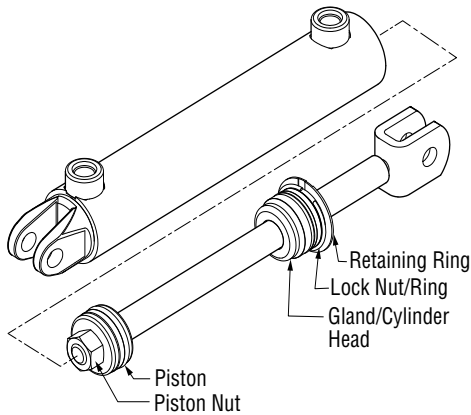

Figure 4-4, Rod Assembly
7. Remove the piston retaining nut and remove the piston. (Figure 4-4)